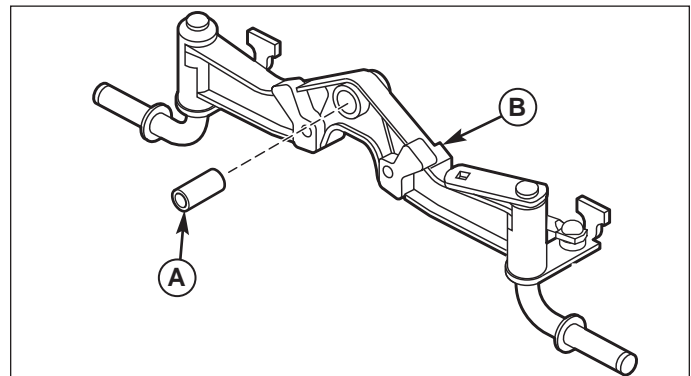

Figure 5 Spacer Removal
- Remove spacer (A, Figure 5) from original axle center mount (B). Inspect spacer for wear. Replace spacer if excessive wear is indicated.